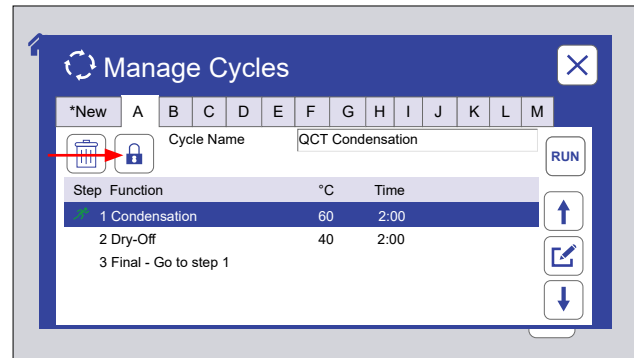
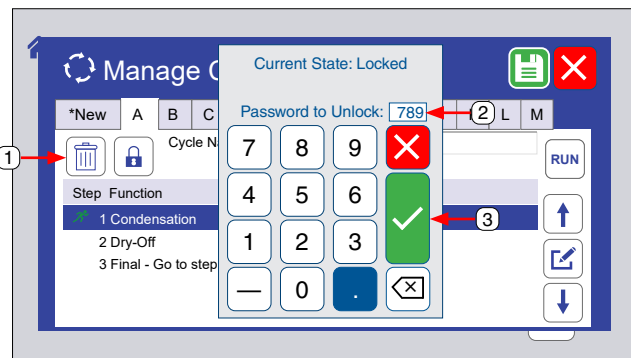

Figure 8.7.3a: Touch the lock icon to lock the cycle.
Figure 8.7.3e: To unlock a cycle, touch the lock icon, enter the password, then touch the check mark button.
- o Lock a cycle to prevent unauthorized changes (Figure 8.7.3a through Figure 8.7.3e).